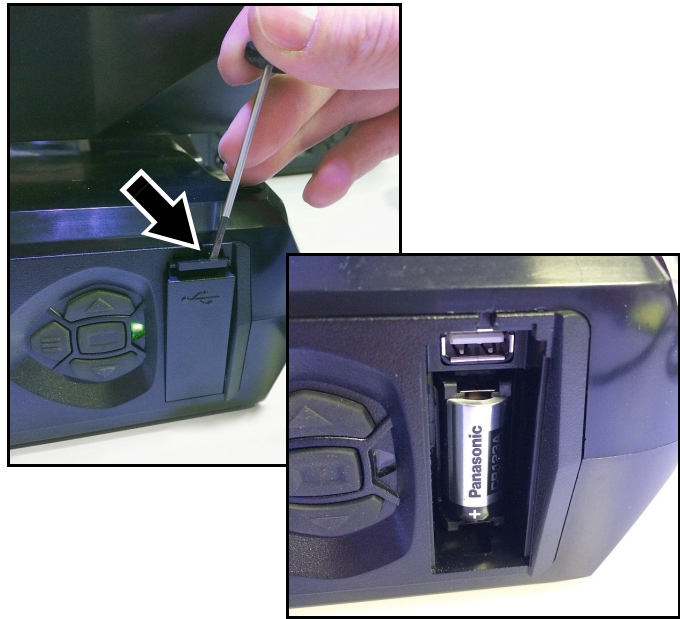

Figure 9: Battery compartment
3. See Figure 9. Push down on the locking tab (arrowed) with a screwdriver to release the USB port / battery compartment cover and remove the cover.